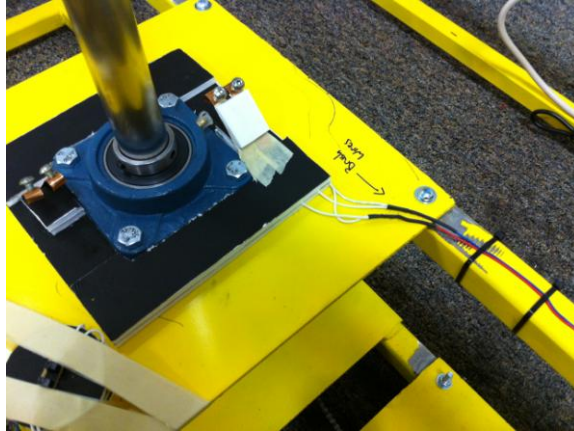

Figure 38 – Brush system in place around top flange bearing
- b. Carefully slip the brushes assembly onto the flange bearing so that the assembly rests flush on the top plate of the test stand, as shown in Figure 38.
- c. Secure the loose wires to the test stand frame using zip ties, as shown in Figure 38.